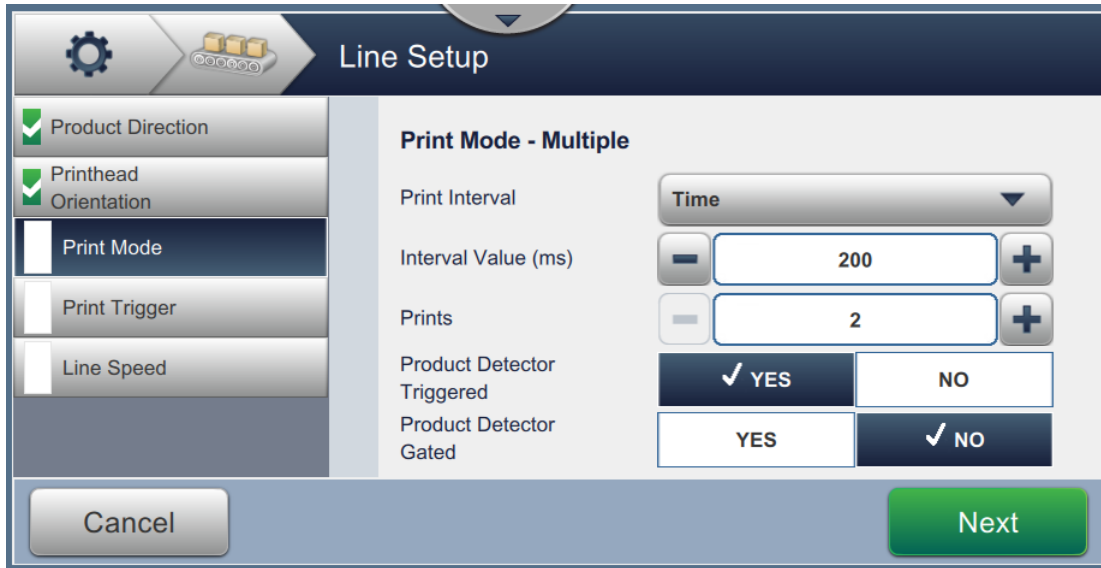

Figure 6-31: Print Mode - Multiple
2. Change the parameters in Settings screen, touch the  button to set the mode as shown in Figure 6-31.